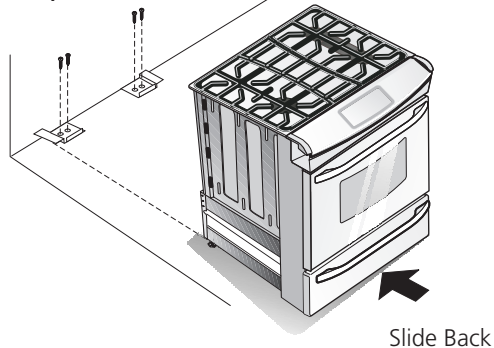

Figure 11
1. Unfold paper template and place it flat on the floor with the back and side edges positioned exactly where the back and sides of range will be located when installed. (Use the diagram below to locate brackets if template is not available. (Figure 11))